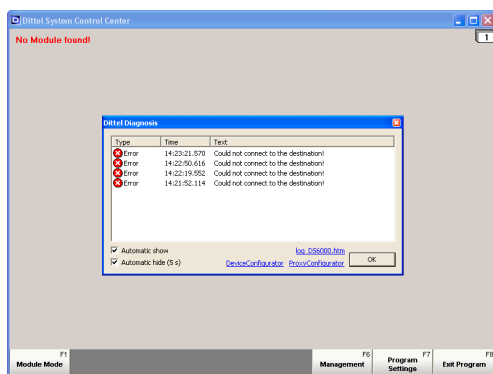

Figure 5-2
- ▷ Press or click the [Cancel] / [F7] key and you return without any change to the English screen Figure 5-2 or 5-3.